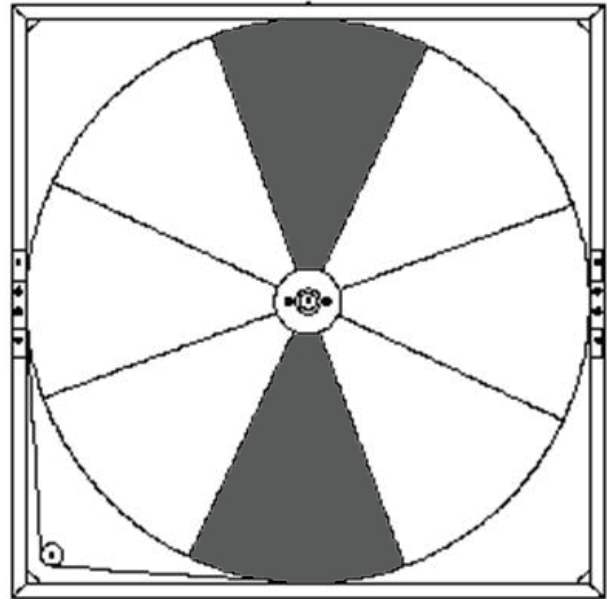

Fig. 33 – Remove/Install Opposing Segments (36 to 86 in.)
Remove or install opposing segments to minimize wheel imbalance. See Fig. 33 for opposing segment removal or installation example.
8. Slowly rotate wheel 180-degrees and remove the opposing segment to rebalance the wheel. See Fig. 33 for removal example.
5. Rotate first segment 180-degrees and install the opposing segment to rebalance the wheel. See Fig. 33 for example of installing opposing segments.
6. Repeat until all of the remaining segments are installed, ensuring balance throughout the procedure. See Fig. 33 for example of installing opposing segments.